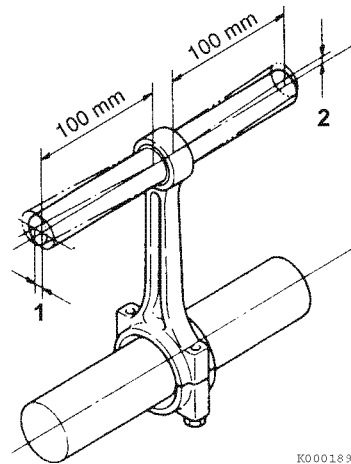

Figure 6-58
5. Check for twist (1, **Figure 6-58**) and bend (2, **Figure 6-58**). See *Connecting rod on page 6-12* for the service limit. Record all measurements.